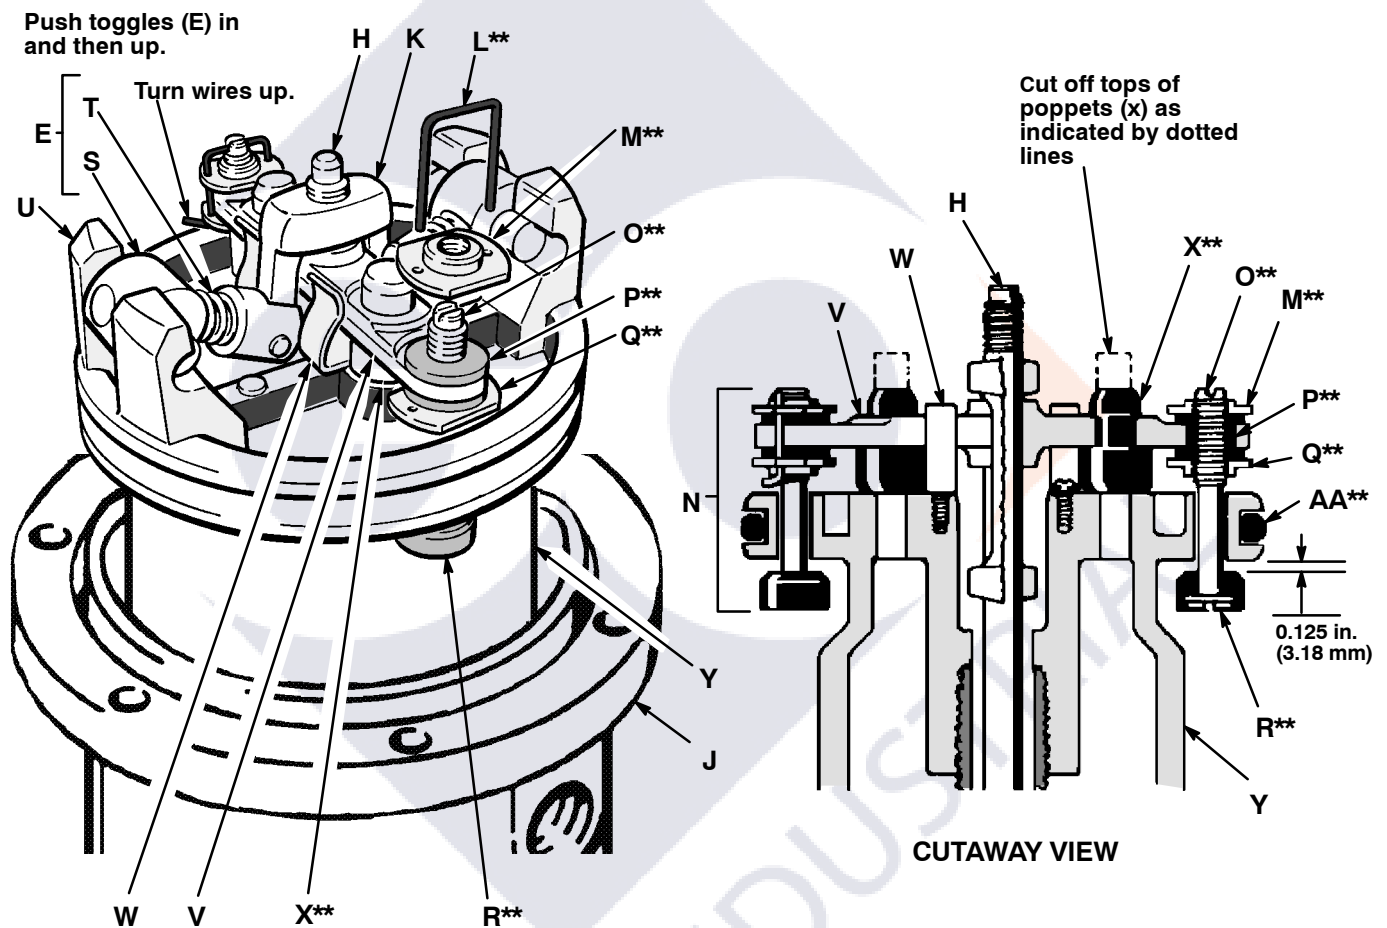

Fig. 3
**Always** keep fingers clear of the toggle assemblies (E), to avoid pinching or amputating them. See Fig. 3.
5. Use a screwdriver to push down on the trip rod yoke (K) and snap the toggle assemblies (E) down. See Fig. 3. Remove the lockwires (L) from the adjusting nuts (M and Q) of the transfer valves (N). Screw the top nuts (M) off. Screw the valve stems (O) out of the grommets (P) and lower adjusting nuts (Q). Take the valve poppets (R) off the stems and squeeze them firmly to check for cracks.
- Grip the toggle rockers (S) with a pliers. Compress the springs (T) and swing the toggle assembly (E) up and away from the piston lugs (U), and remove the parts. Check that the valve actuator (V) is supported by the spring clips (W), but slides easily into them. See Fig. 3.
- Remove the trip rod yoke (K), valve actuator (V) and trip rod (H). Check the exhaust valve poppets (X) for cracks.
**NOTE:** To remove the exhaust valve poppets (X), stretch them out and cut with a sharp knife.
- Pull the piston (Y) up out of the base (J) and inspect the piston o-ring (AA) and the o-ring in the base casting.
4. Be sure the o-rings are in place. Slide the piston rod down through the throat bearing and lower the piston (Y) into the air motor base (J).
5. Pull the exhaust valve poppets (X\*\*) into the valve actuator (V) and clip off the top part shown with dotted lines. See Fig. 3.
6. Install the transfer valve poppets (R\*\*) onto the valve stems (O\*\*), then reassemble the valve stems (O\*\*), bottom adjusting nuts (Q\*\*), grommets (P\*\*), and top adjusting nuts (M\*\*) on the piston (Y). Assemble the trip rod (H), valve actuator (V), trip rod yoke (K) and toggle assemblies (E) on the piston. See Fig. 3.
7. Set gap on inlet valve (N) using the .125 in. (3.18 mm) side of gauge 171818. Rotate valve stem (O\*\*) until snug against gauge, then back off until valve stem slot is lined up with wire holes in valve nut (M\*\*) (do not back off more than 1/2 turn). See Fig. 3. Install lockwires (L\*\*) in the adjusting nuts M\*\* and Q\*\*.
8. Snap the toggle assemblies (E) to the *up* position. Reinstall the cylinder (G) and hold the trip rod (H) in place with tool 207579. Apply a medium strength thread locking compound to the threads of the trip rod (H) and assemble the cap nut (F) to the trip rod (H). Torque the cap nut (F) to 60 lb-in (6.8 N-m). Install cap nut (F) into cylinder (G).